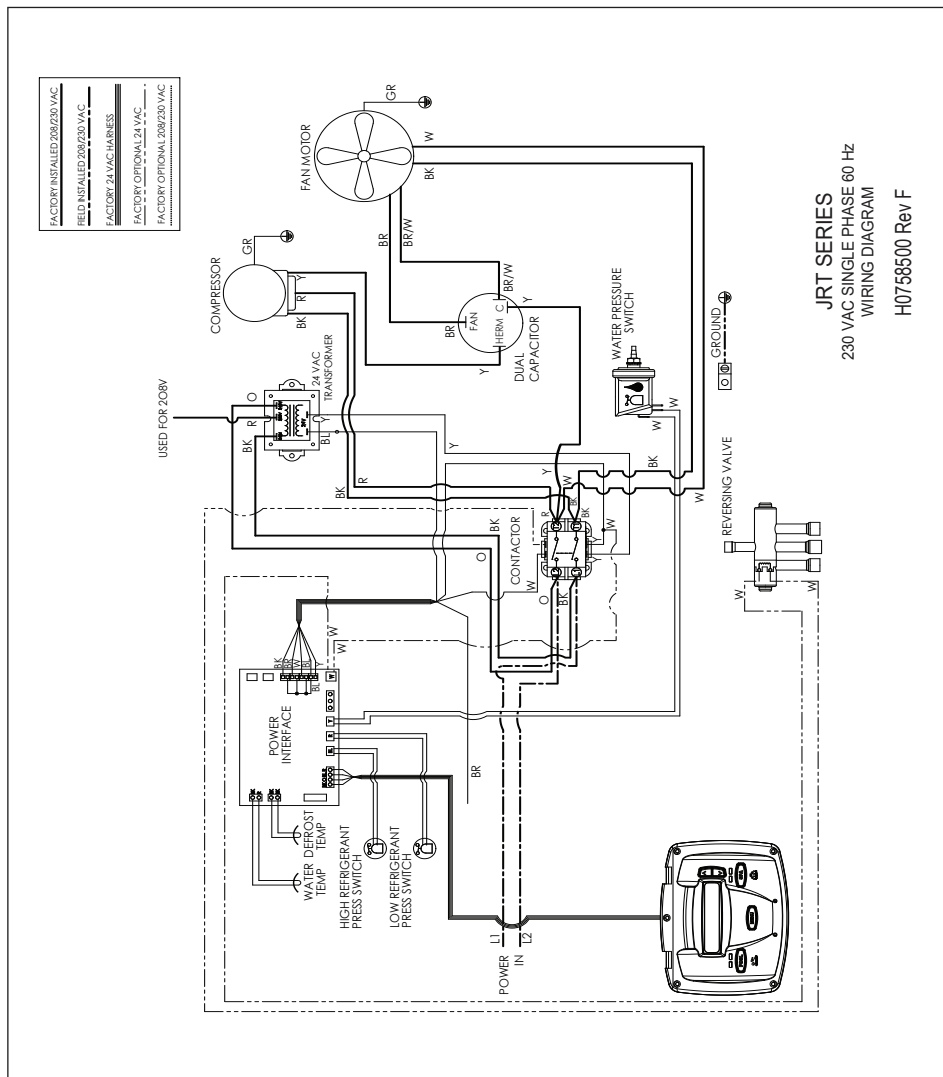
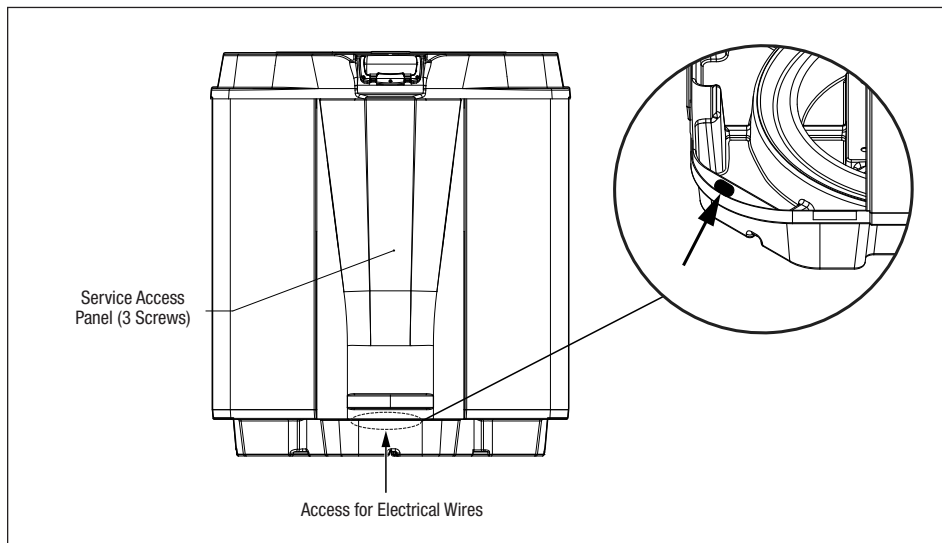

Figure 8. JRT Single-Phase Electrical Supply Wiring Diagram
Figure 9. Jandy JRT Heat Pump Front View
Wiring connections must be made exactly as shown in the wiring diagram found on the inside of the heat pump access compartment (see *Figure 8* for single phase electrical wiring). The heat pump must include a definite means of grounding and bonding. There is a bonding lug on the right side of the heat pump, where a bond wire must be attached.
2. Remove the three (3) screws that attach the service/access panel to the heat pump unit (see *Figure 9*).
8. Connect the wires to the terminals on the main contactor as shown in the wiring diagram. See *Figure 8*.
2. Remove the screws that attach the service/access panel to the heat pump unit and the cover to the junction box (see *Figure 9*).
3. Run the wires from the pool/spa control system into the conduit connection labeled "low voltage connection", located on the lower right hand side of the heat pump (see *Figure 9*). Ensure conductors are not pinched or damaged.
2. Remove the three (3) screws that attach the front panel to the heat pump and remove the front panel. See *Figure 9*.
- Run four (4) 22 AWG solid copper wires into the low voltage soft membrane located on the lower left-hand side of the heat pump. The wires may be up to 300 feet (91.4 m) in length.
- Connect the wires to the 4 position terminal on the lower left-hand corner of the Power Interface PC Board, labeled "User Interface1". See Figure 8. The wires will be added to the existing wiring to the User Interface installed on the heat pump.